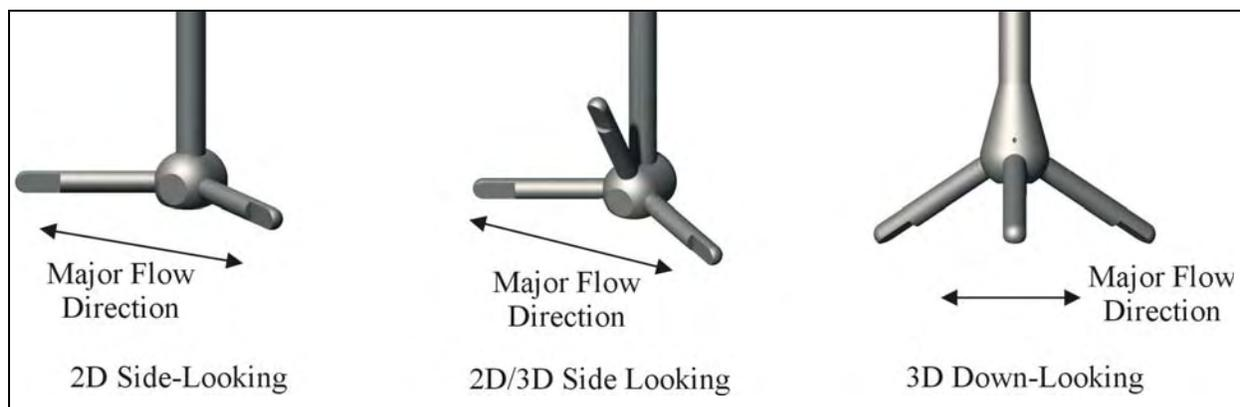

Figure 29 – Preferred Flow Direction to Avoid Flow Interference
- The FlowTracker should be oriented so the axis of the transmit transducer is roughly perpendicular to the expected direction of flow (Figure 29).